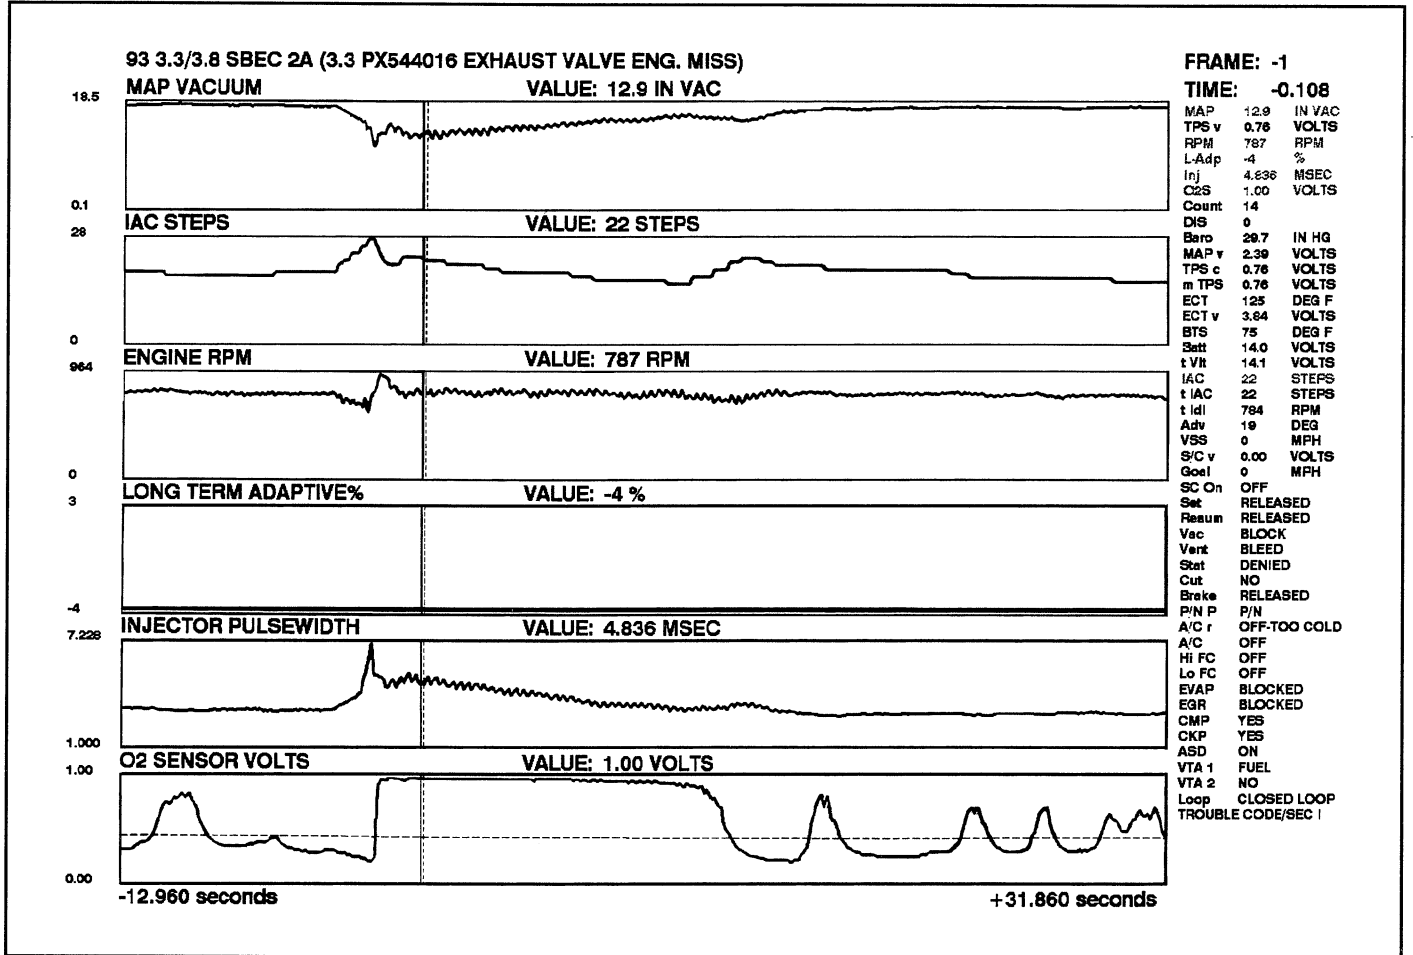

Fig. 8
- Figures 8 & 9 show a more severe example